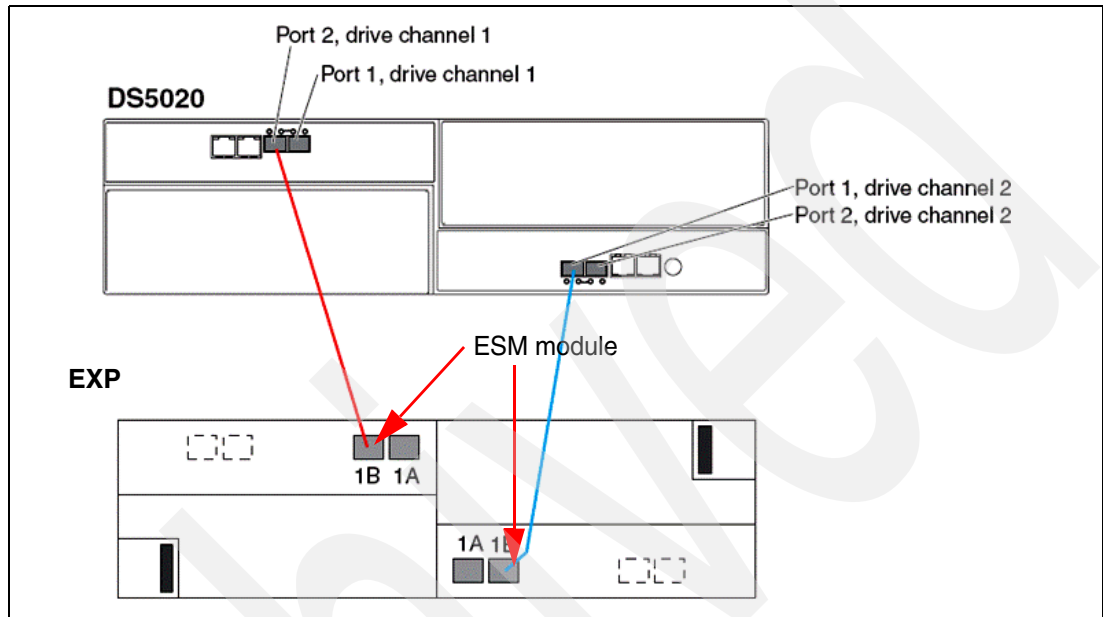

Figure 3-64 DS5020 drive cabling with one EXP
- ▶ If you attach only one enclosure, make sure that you have one connection to each of the controllers, thus using one of the two ports on each controller (controller A port 2 and controller B port 1), as shown in Figure 3-64.